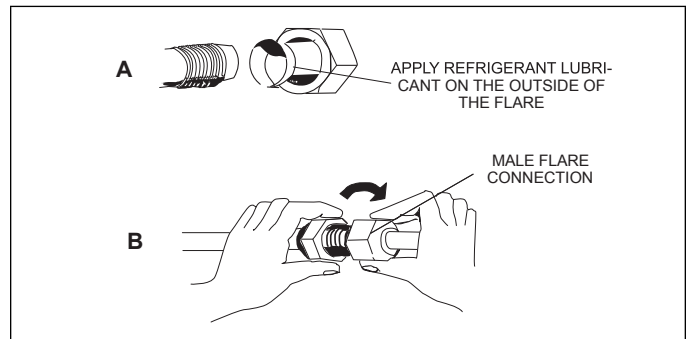

Figure 18. Making Connections (Male to Female Connection)
15. Align the threaded connections with the flared refrigerant lines. Tighten the flare nuts lightly at first to obtain a smooth match as illustrated in "Figure 18. Making Connections (Male to Female Connection)".